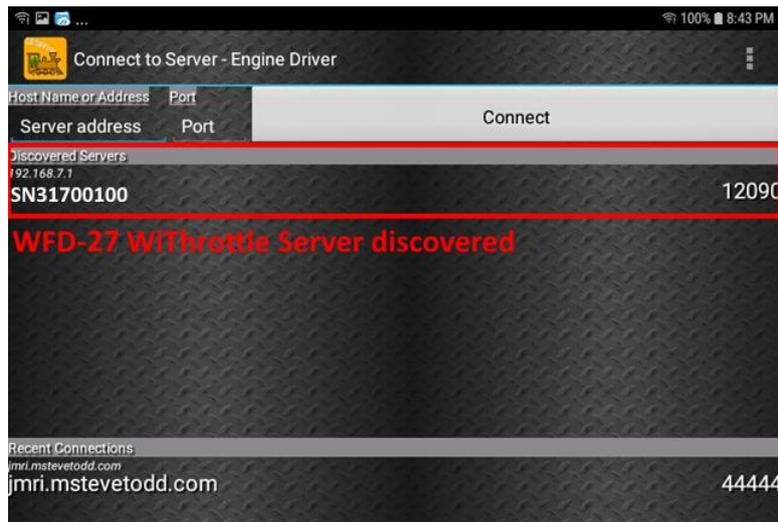

Figure 20 The WFD-28 WiThrottle Server is discovered by the Engine Driver app on Android
- (8) On the Apps find the Engine Driver app icon – you may have to swipe right - (for convenience you could add a shortcut to your Home Screen), then tap it:
- (9) Go through the setup sequence, accepting all the defaults and allowing the required privileges.
(10) After setup, you should see the “Connect to Server” page with your WFD-28 listed as a “Discovered Server” as Figure 20. Tap on it to connect. The green network LED on your WFD-28 should now flash regularly to show that the UWT-100 is communicating with it.